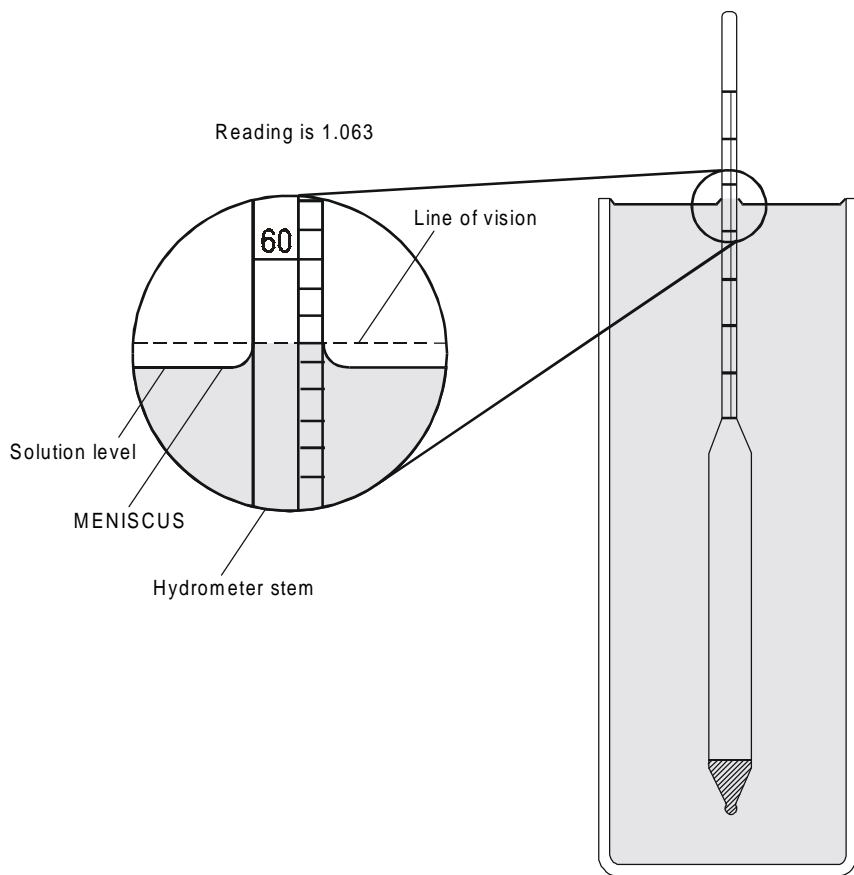

Figure 1
5. Be sure that the hydrometer is clean and dry. Carefully lower the hydrometer into the solution. Let it bob up and down slightly. When it stops, read the number at the top of the MENISCUS; see Figure 1.